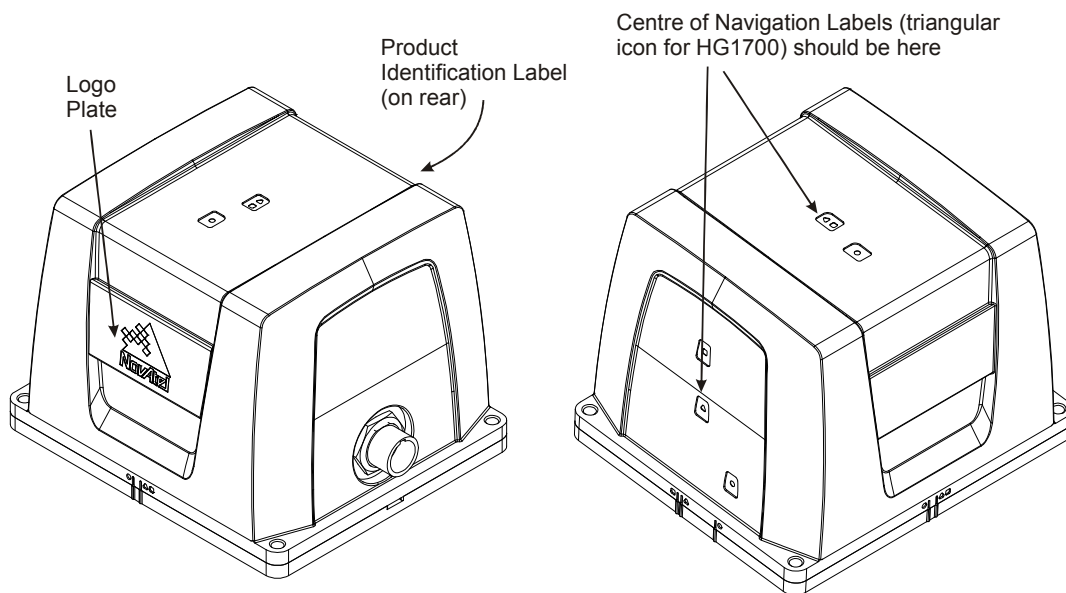

Figure 55: Final Assembly
9. Ensure the product identification label, the logo plate and the centre of navigation labels are properly affixed and contain the correct information. The final assembled unit will be similar to that shown in *Figure 55*: